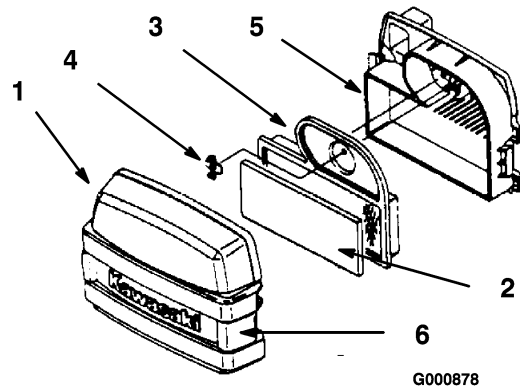

Figure 24
3. Clean around the air cleaner to prevent dirt from getting into the engine and causing damage. Unlatch the two side latches and remove the air cleaner cover (Figure 24).
4. Carefully remove the foam element from the paper element (Figure 24).
5. Unscrew the wing nut and remove the paper element (Figure 24).